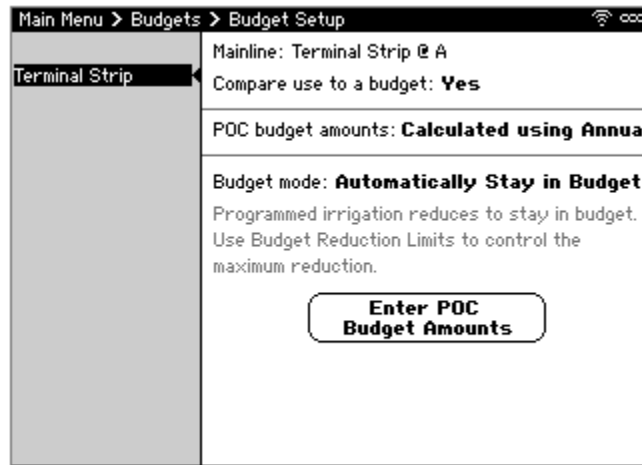

Figure 57: Calculated using Annual Budget Setup Screen
- If selecting **Calculated using Annual** (Figure 57):